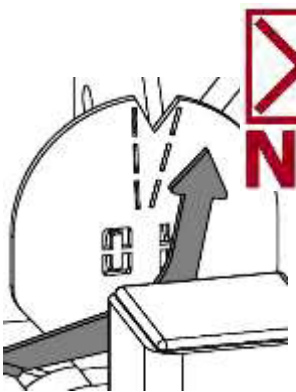

Fig. 2
- Is the pointer (when device is lifted) outside the nick (marking), readjust the tension force with the help of the 4 spindles (Figure 2). Danger: gripping good could fall down!